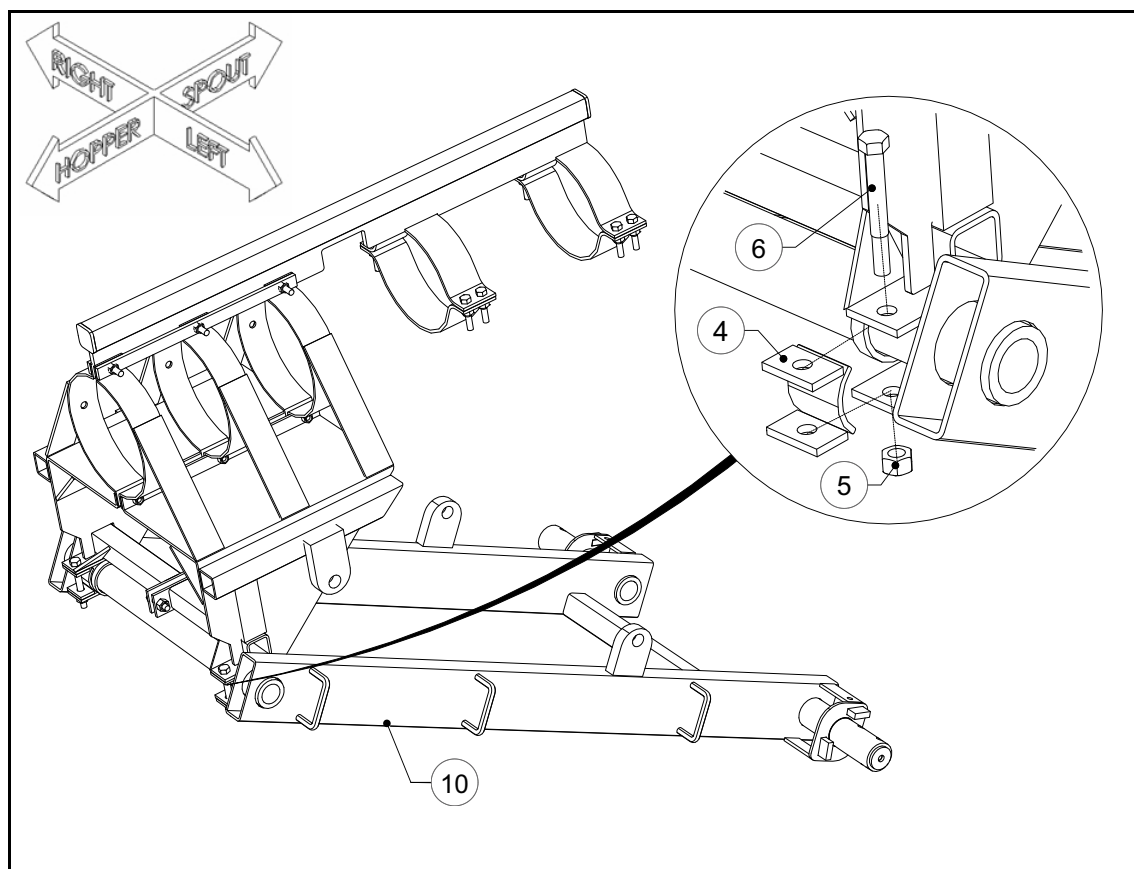

Figure 3.4 Attaching Cam-Lift to the Wheel Base
2. Connect cam-lift (10) to wheel move base and secure with 1/2" x 4" bolts (6), swivel blocks (4), and 1/2" locknuts (5) (see Figure 3.4).
3. Secure grease fittings (9) to wheel move base (1, 2) and apply grease to each fitting.